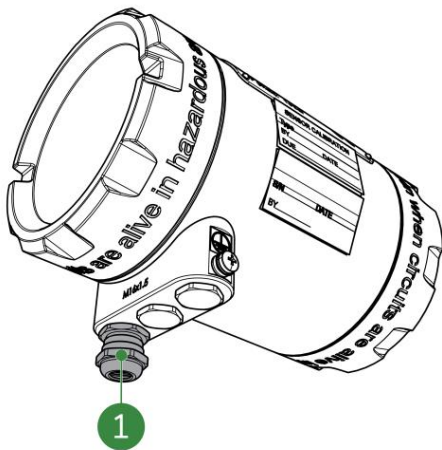

Figure 5-18: Cable gland
4. Tighten the cable gland (Figure 5-18, pos. 1) to prevent moisture and dirt entering the SDM.